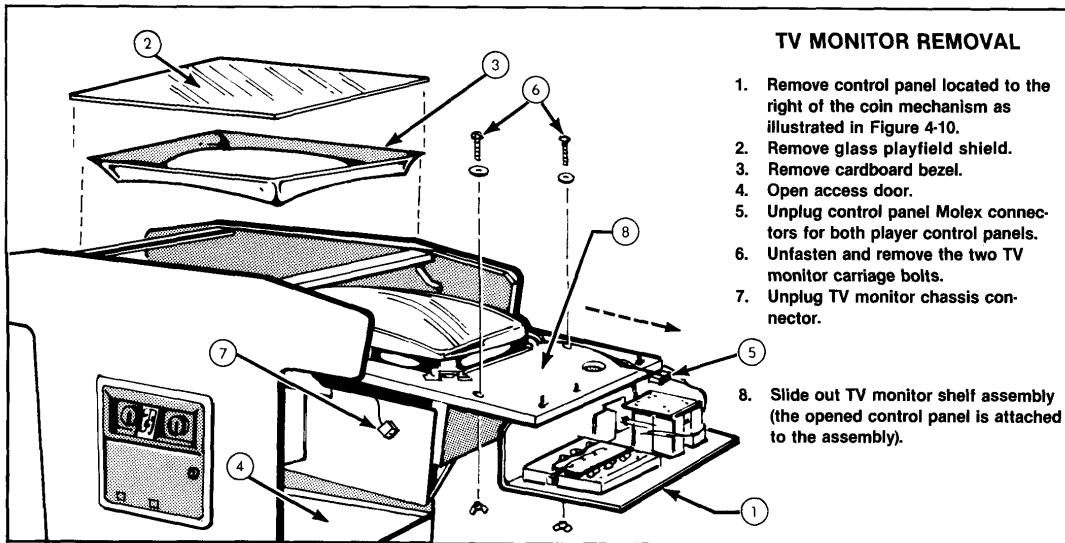

Figure 4-11 T.V. Monitor Removal
F. TV MONITOR REMOVAL (See Figure 4-11)
If the TV monitor proves to be at fault, remove the monitor as shown in Figure 4-11.